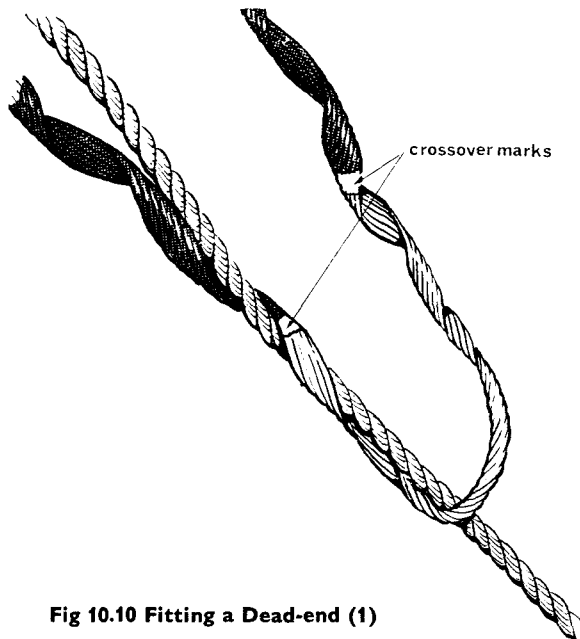

Fig 10.10 Fitting a Dead-end (1)
- With the terylene rope under tension, wrap one leg of the dead-end two or three pitches around the rope, starting at the crossover point (Fig 10.10).